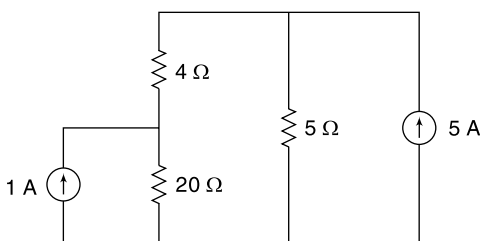

Fig. 4.109 Circuit of Ex. 4.81
4.81 Find the current through the $20\ \Omega$ resistor in Fig. 4.109 using Norton's theorem.